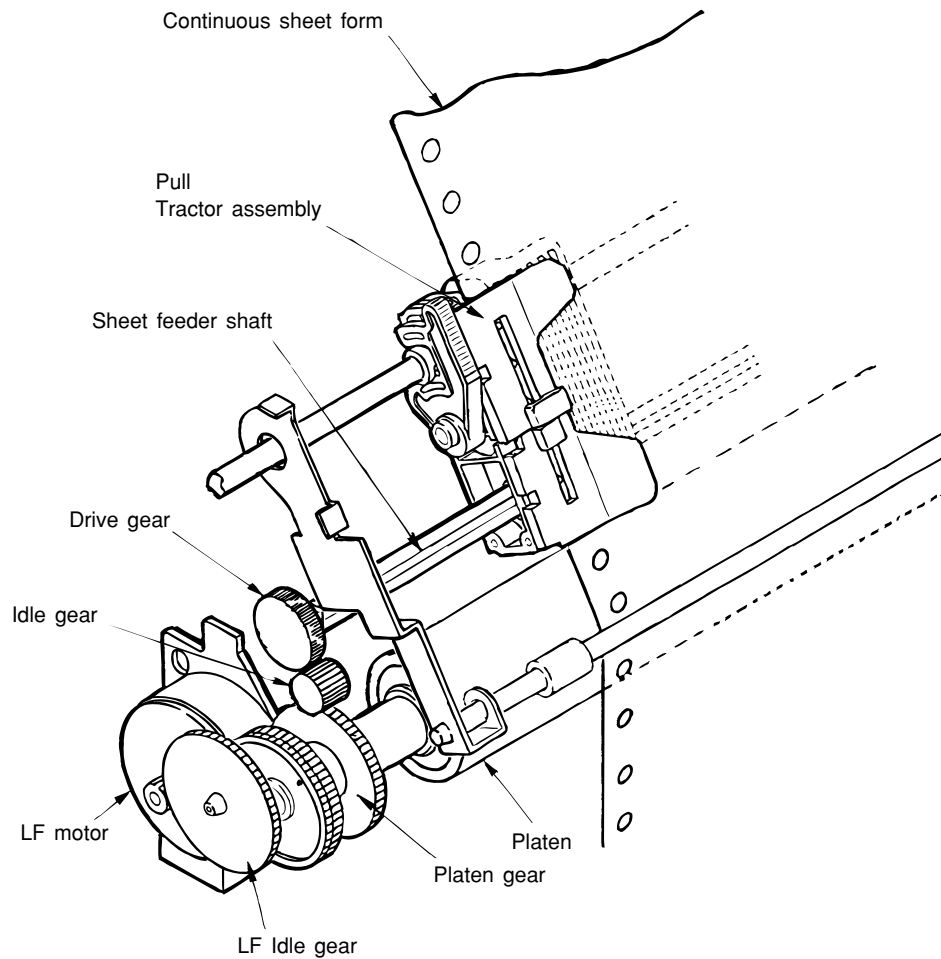

**Figure 2-11**
(4) Push and pull tractor mechanism (Option) (See Figure 2-11).